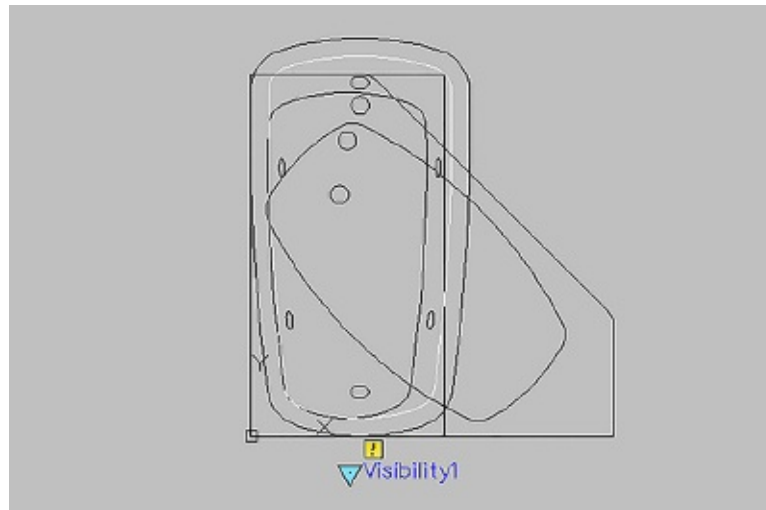

FIGURE 17.23 Adding the Visibility parameter
2. Click below the blocks to place the Visibility parameter, as shown in Figure 17.23.